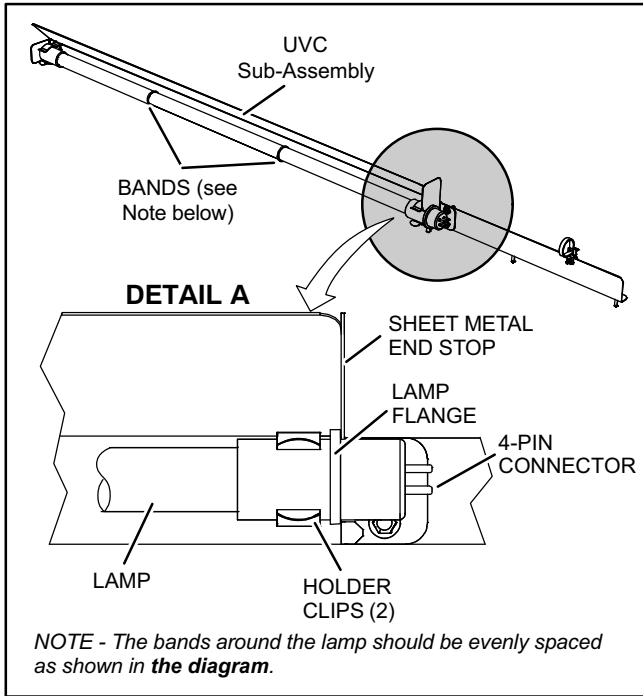

Figure 8. Installing Lamp in Holder Clips
1. Wear cotton gloves or use a cotton cloth when handling the new lamp. Place the lamp in the holder clips of the UVC sub-assembly (see figure 8). Verify that the lamp flange at the connector end is positioned between the lamp holder clip and the sheet-metal end stop (see detail A in figure 8).
5. Remove the (2) mounting screws of the UVC assembly. Carefully slide the complete UVC assembly out through the blower access door.
7. Wear cotton gloves or use a cotton cloth when handling the new lamp. Place the new lamp in the holder clips of the UVC assembly. Verify that the lamp flange at the connector end is sandwiched between the lamp holder clip and the sheet-metal end stop (see figure 8 on Page 8).